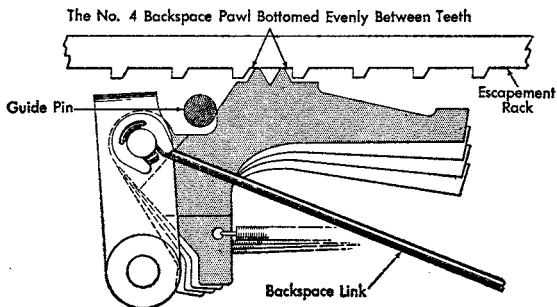

Figure 33. Guide Pin Adjustment
a. With the carriage resting on the 5 or 6 escapement pawl for the $\frac{1}{32}$ " escapement, or on the 7 or 8 escapement pawl for the $\frac{1}{36}$ " escapement, the backspace guide pin should guide the backspace pawls into the rack so that the points of the number 4 backspace pawl will bottom evenly between two teeth in the escapement rack (Figure 33).